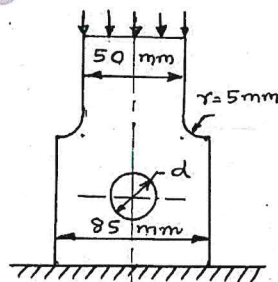

Fig. Q2 (b)
b. Find the diameter of the hole shown in Fig. Q2 (b), if the stress concentration factor at the hole is to be same as at the fillet. (04 Marks)